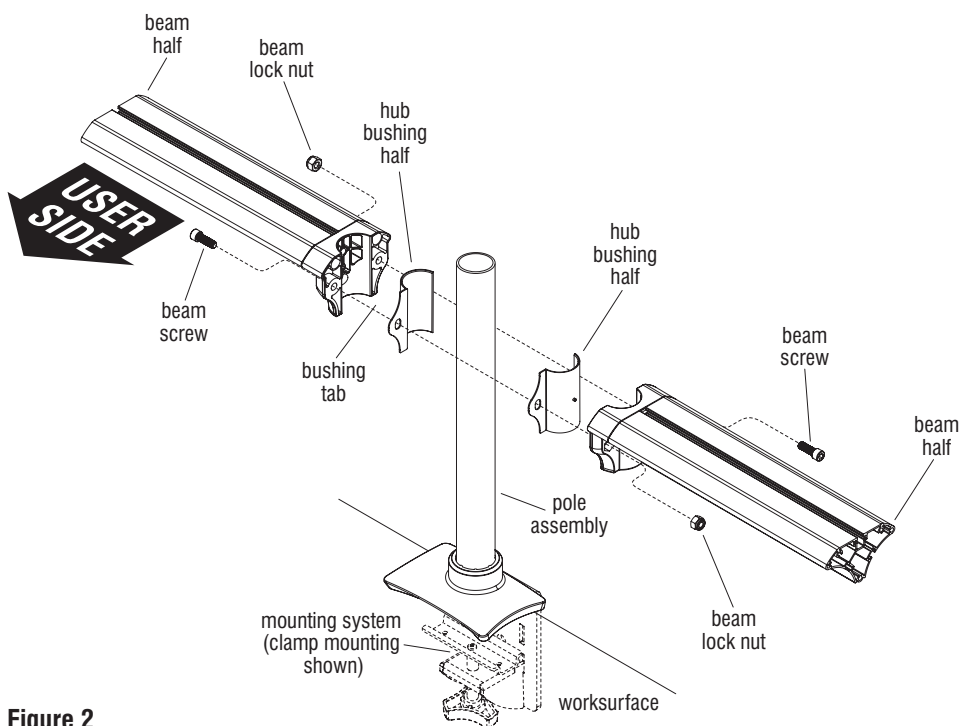

Figure 2
4. To install beam halves to the pole assembly, first position two hub bushing halves together around the pole, with the bushing tabs facing the user side as illustrated. Next orient the two beam halves over the hub bushing halves, aligning the user side beam mount holes with the holes in the bushing tabs. Insert a beam screw through all aligned mounting holes at the user side and twist on a beam lock nut. Add a screw and beam lock nut at the rear, then tighten back screw and nut. Position the beam to the desired height and tighten user side beam screw and lock washer to secure beam assembly in place (Figure 2).